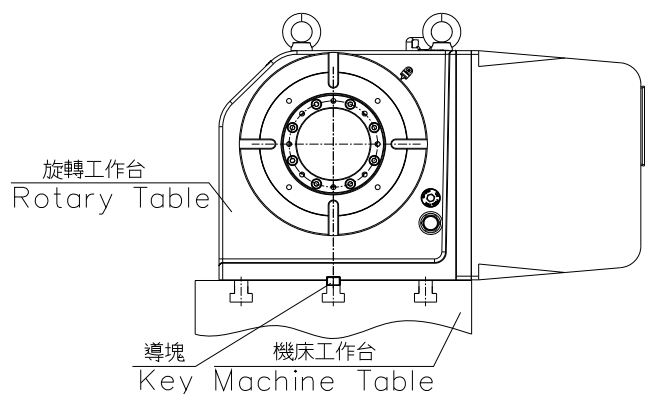

Fig 6-2
- (3).Clean and de-burr the mounting surfaces and the rotary table.
- (4).Mount the rotary table on the machine center. (see Fig 6-2) °